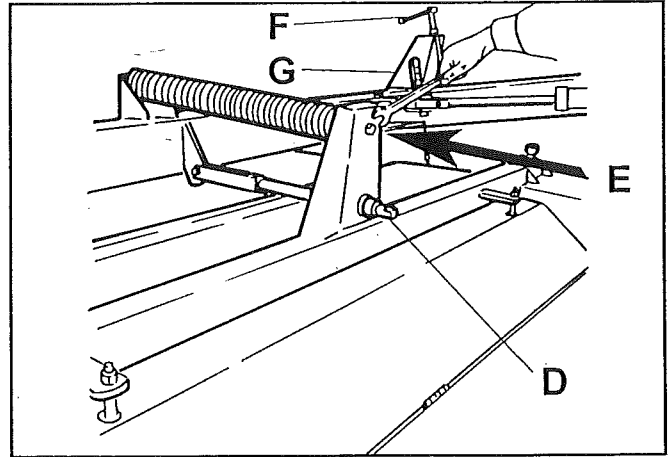

Fig. 6
- FIG. 6** When the angle of the cutting platform has been adjusted with the spindle **D** (steep angle - short stubble), the horizontal spring **E** is tightened so that it with a pressure of 20 kg is possible to move the cutting platform in the direction of **E**.